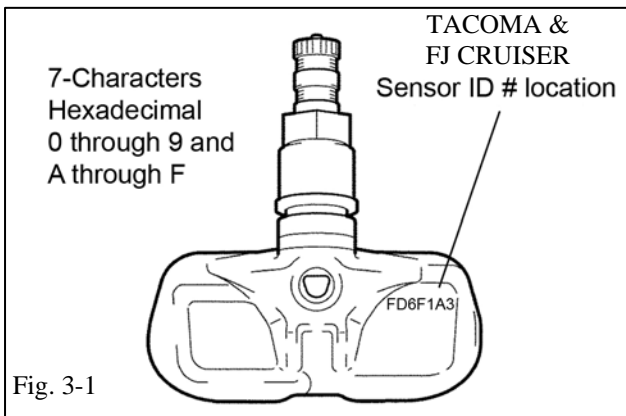

Fig. 3-1
- (a) If previously removed sensor is 20 degree sensor, proceed to step 3 (c). If previously removed sensor is 40 degree sensor (e.g. Tacoma styled steel wheels), you must install new 20 degree sensors into accessory wheels. When installing new 20 degree sensors, you **MUST** record sensor ID codes for all 4 wheels and register these 4 new ID codes (Fig. 3-1) with the vehicle ECU. Each sensor has a unique sensor ID code. The sensor ID code is a 7 or 8-character hexadecimal string comprised of numbers 0 through 9 and letters A through F. See Fig. 3-1 for example code and location.